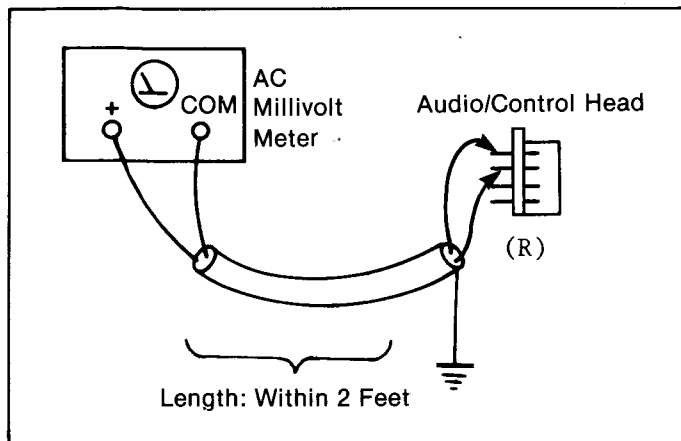

Fig. E5
- Change the connected point of the AC Millivolt Meter as shown Fig. E5.